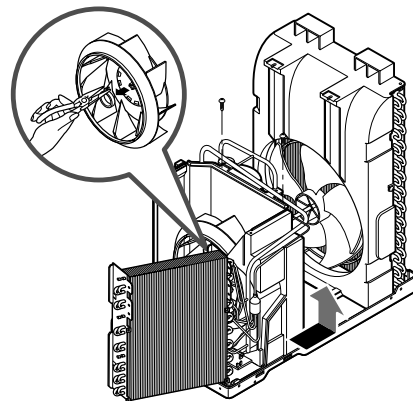

Figure 6
12. Remove the turbo fan. (See Figure 6)